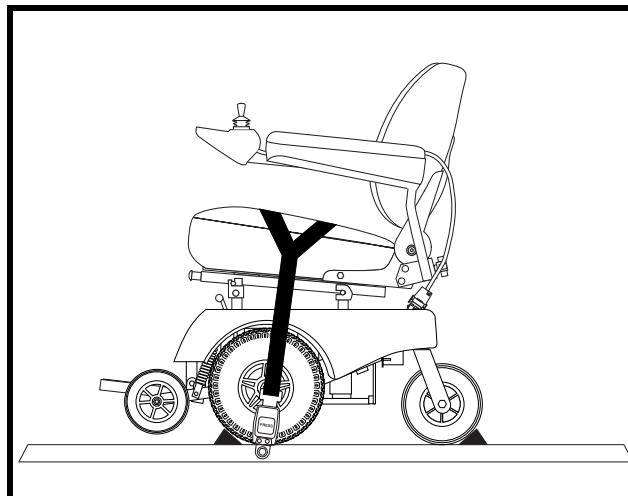

Figure 11. Y-strap Positioning
4. Secure the mobility device to the platform by draping the Y-strap over the seat and buckling the strap securely. See figure 11.